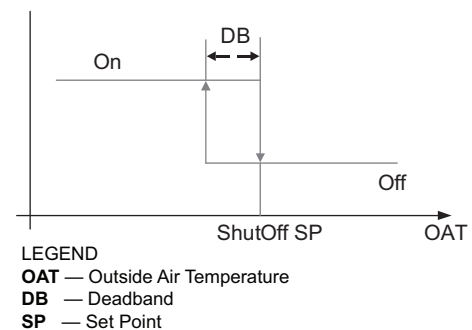

Fig. 57 — Hysteresis Settings
Hysteresis setting (DB) defaults to 2°F (–17°C). See Fig. 57.